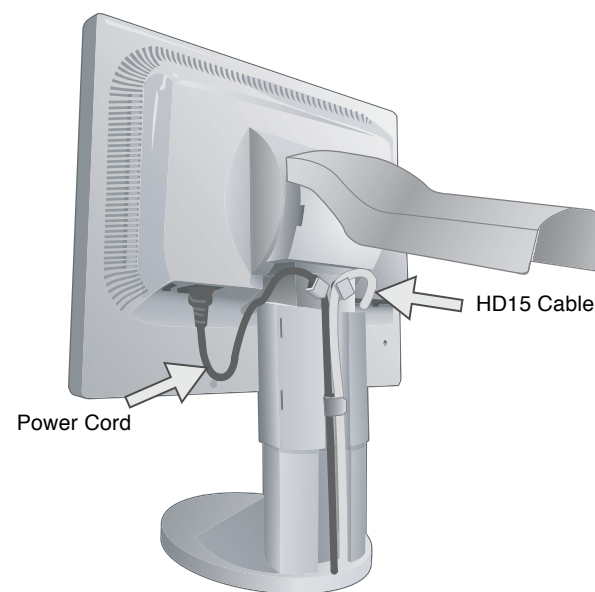

Figure A.2
5. If you wish to use the cable management system, raise the rear cover (**Figure A.2**) and route the cables through the appropriate guides found there.